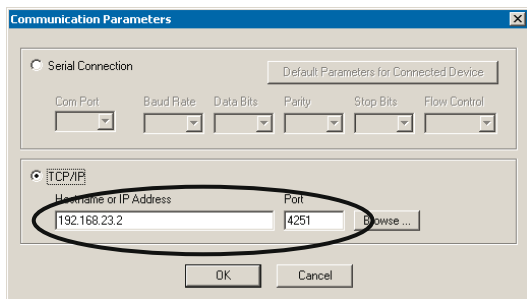

Figure 6.18 Diffractionmeter > Settings pop-up window
- 2.2. Enter the IP address **192.168.23.2** and the port **4251** (see Figure 6.18)